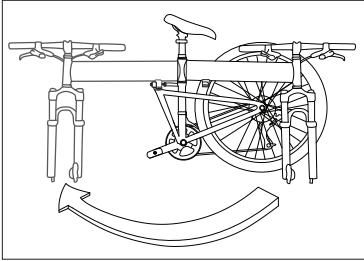

Fig. 24: Unfold the frame.
3. Place the rear wheel on the ground, grasp the rear wheel with one hand and the handlebar stem with the other and unfold the bike (Fig. 24).